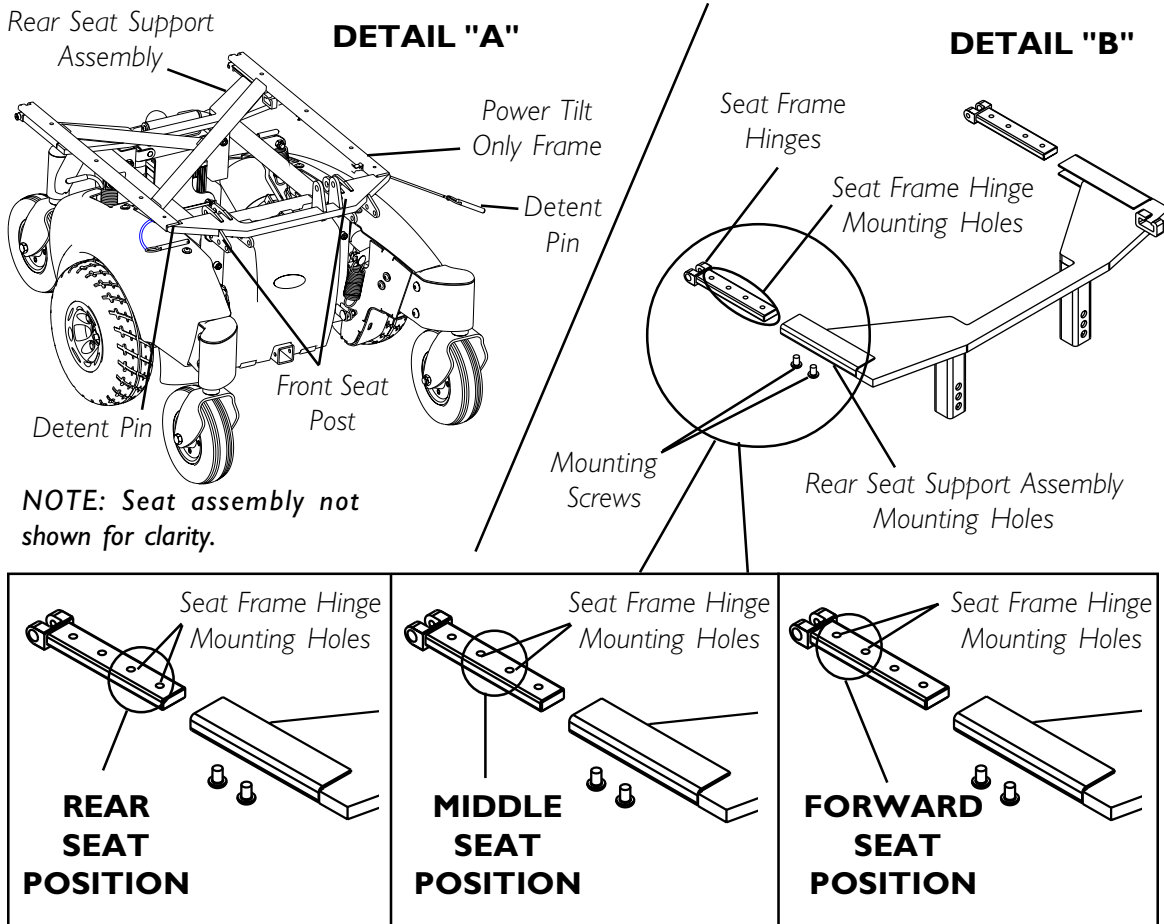

FIGURE 2 - ADJUSTING THE SEAT POSITION
1. Remove the two (2) detent pins securing the power tilt only frame to the front seat posts as shown in DETAIL "A" of FIGURE 2.
2. Remove the four (4) mounting screws securing the two seat frame hinges to the rear seat support assembly as shown in DETAIL "B" of FIGURE 2.
4. Align two (2) of the four (4) seat frame hinge mounting holes with the two (2) the rear seat support assembly mounting holes to the desired depth adjustment according to the chart in FIGURE 2.
6. Reinstall the four (4) mounting screws securing the two seat frame hinges to the rear seat support assembly.
7. Insert the two (2) detent pins through both the power tilt only frame and the two (2) front seat posts as shown in DETAIL "A" of FIGURE 2.